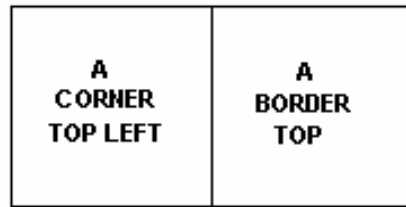

Figure 4
4. Next going from LEFT to RIGHT lock “A BORDER TOP” to “A CORNER TOP LEFT” (Figure 4).